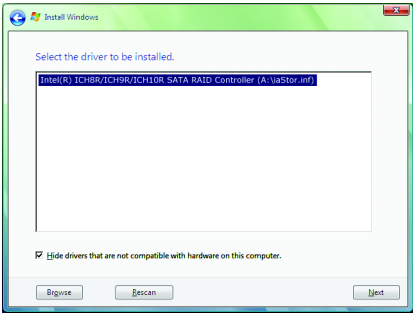

Figure 10
① Only for GA-EP45-UD3R.
When a screen as shown in Figure 10 appears, select **Intel(R) ICH8R/ICH9R/ICH10R SATA RAID Controller** ^(Note) and press **Next**.
(Note) The item displayed in Figure 10 will be shown as **Intel(R) ICH10R SATA AHCI Controller** when the SATA controllers are set to AHCI mode.